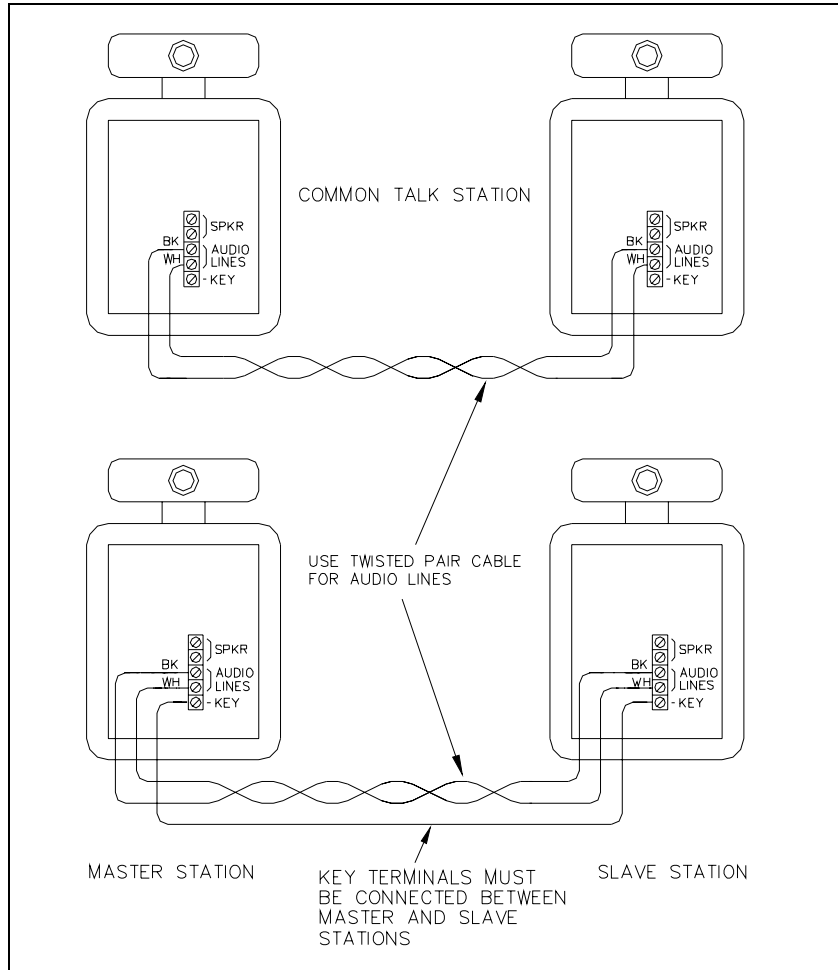

Figure 1. Wiring Details
2. Wire as shown in Figure 1 below.
4. Wire as shown in Figure 1 below.